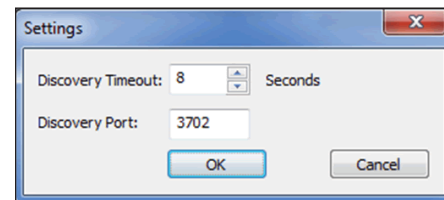

Figure 17: Discovery Timeout Settings
3. Set a new **Discovery Timeout** using the **up** and **down** arrow buttons. Refer to **Figure 17**.